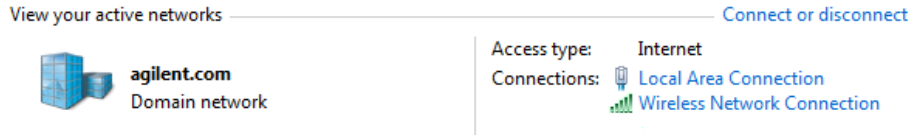

Figure 13 Network and Sharing Center – View your active networks
- b Under **Network and Internet**, click **View network status and tasks** (Figure 13).
The Network and Sharing Center Window opens, displaying your active network connections (Figure 13). Note that the appearance of the Network and Sharing Center screen may differ slightly from that shown in Figure 13 depending on your current network setup.